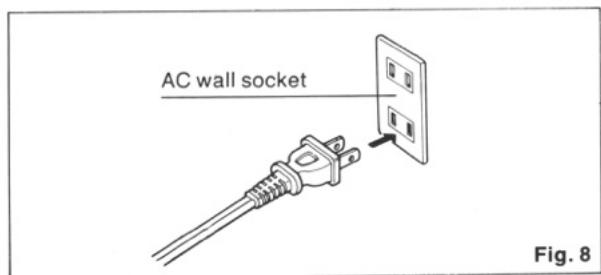

Fig. 8
3. Plug the control unit power cord into a wall socket or the switched AC outlet on the rear panel of the amplifier. (Fig. 8)